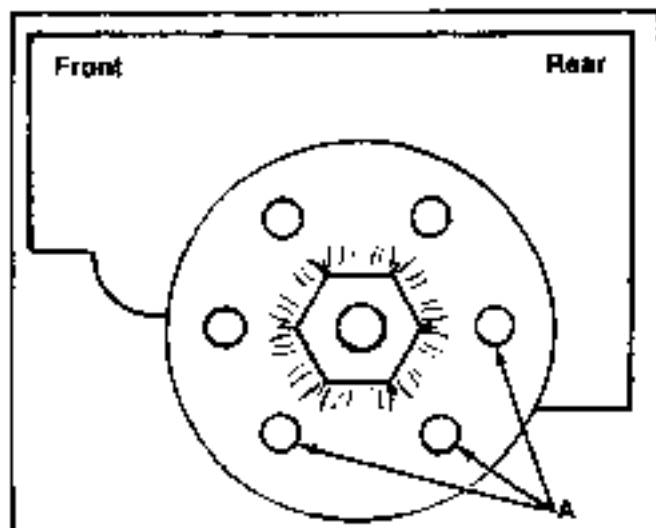

FIGURE 13.
A. = Patch bolt 3/8-16 x 4" Lg. Grade 5, and lock washer 3/8" I.D. See figures 13 and 14.